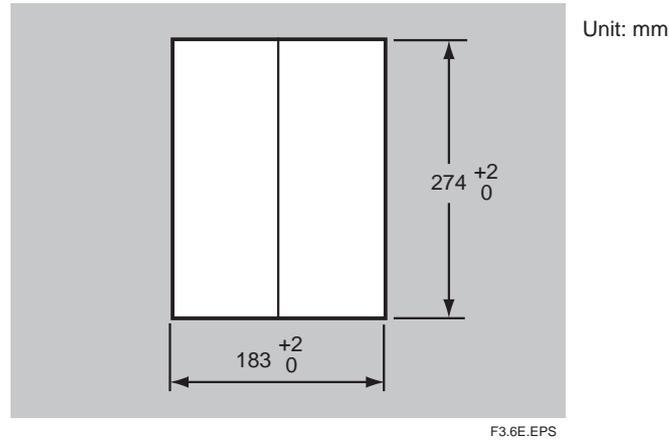

Figure 3.6 Panel cutout sizes
(1) Cut out the panel according to Figure 3.6.